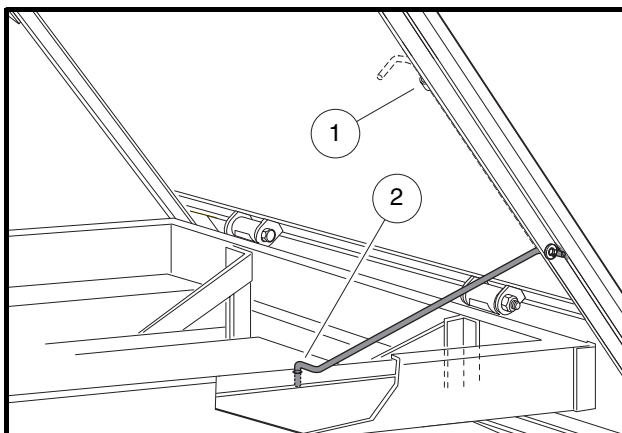

Figure 9 Prop Rod – 472 Vehicle
To lift the bed on the 472 vehicle, remove the two bolts, four washers, and two nuts that secure the bed to the vehicle frame. Lift cargo bed and remove the prop rod from the clip (1) and insert it into the hole (2) in the inner body (**Figure 9**). **See following DANGER.**